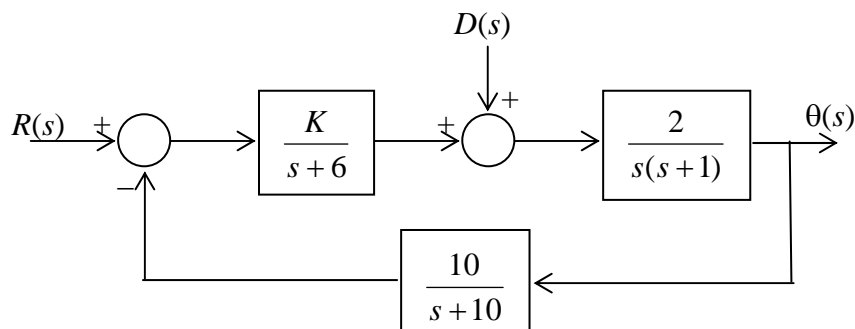

Figure 2
4. The block diagram of a linear system is shown in Figure 2.